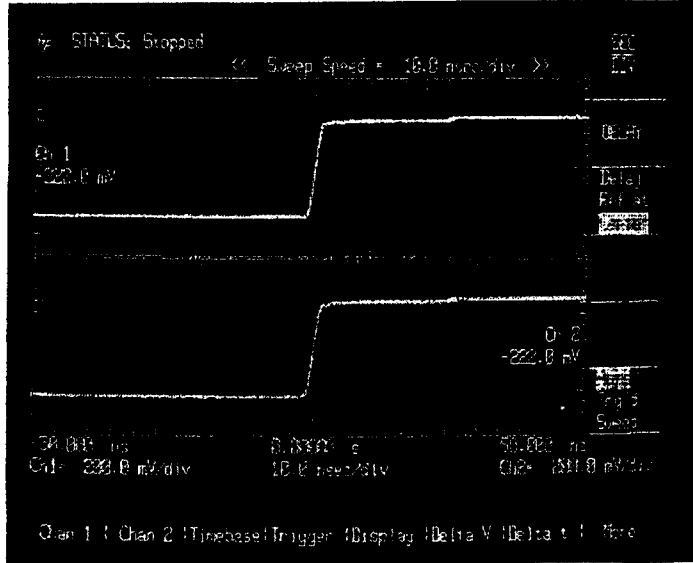

Figure 7-33. Low Timing Resolution on Channels 1 & 2.
6. Turn Func 1 off and select the Timebase menu. Set the SEC/DIV to 10 nsec/div (see Figure 7-33). Note the near vertical edges, (this indicates lower time resolution).